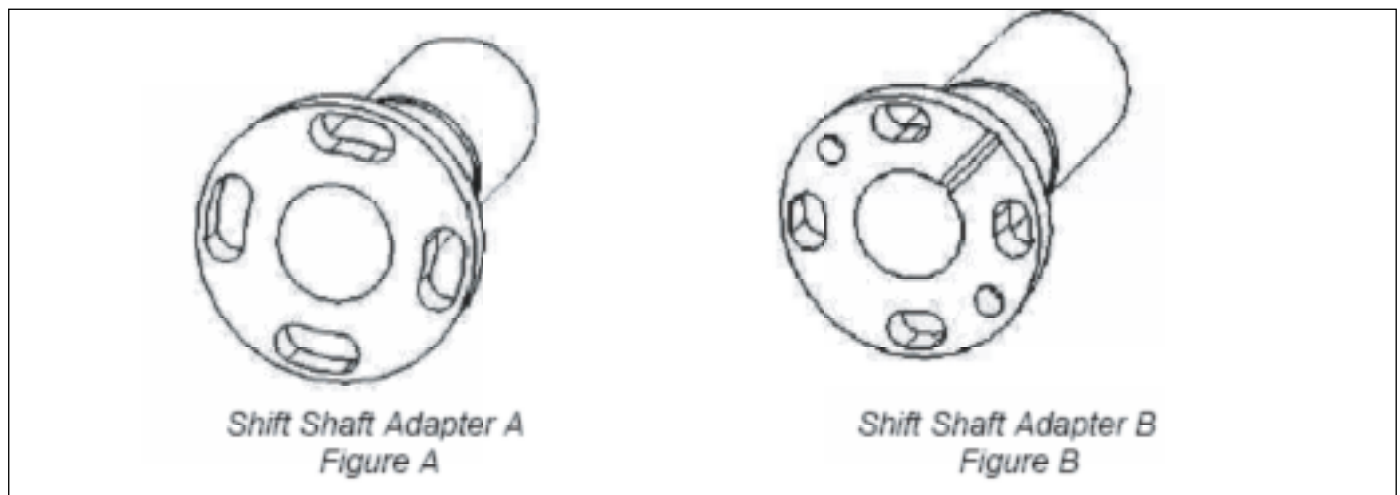

Fig. 7-14 .Adapter Type "A" and Type "B" shown.
4. Notice the shift shaft adapter. If it looks like the one in figure 7-14 - "Figure A", proceed to Step 6. If it looks like the one in "Figure B", proceed to Step 18.